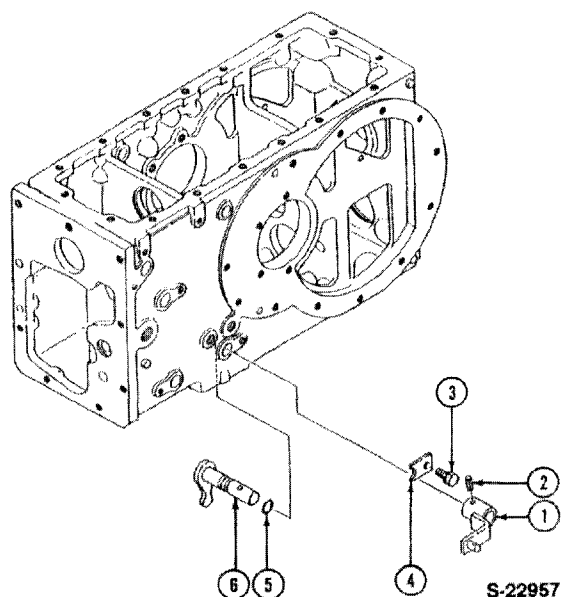

Figure 14
Reference — Figure 14
2. Drive the roll pin out of the change lever (1), Figure 14, and remove the lever.
3. Remove the plate (4), and remove the shift arm from inside the case.
2. Install the change lever and roll pin, Figure 14.